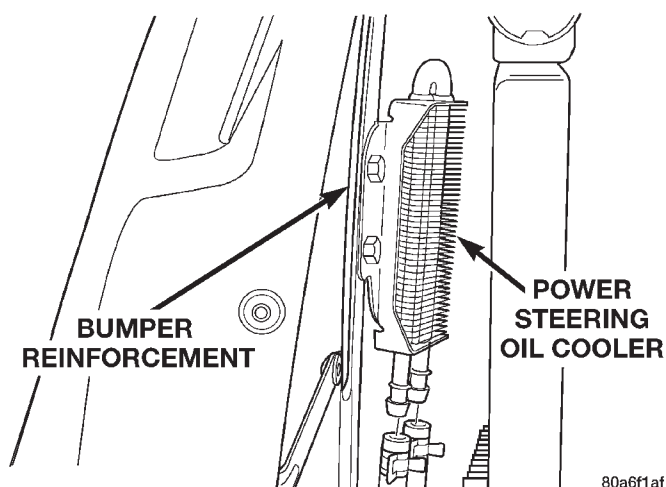

Fig. 23 Power Steering Oil Cooler Installed
(1) Position the power steering oil cooler on the bumper reinforcement. Install the 1/4-20 bolts and nuts mounting the power steering oil cooler to the bumper reinforcement (Fig. 23). Tighten both bolts to a torque of 9 N·m (7 ft. lbs.).